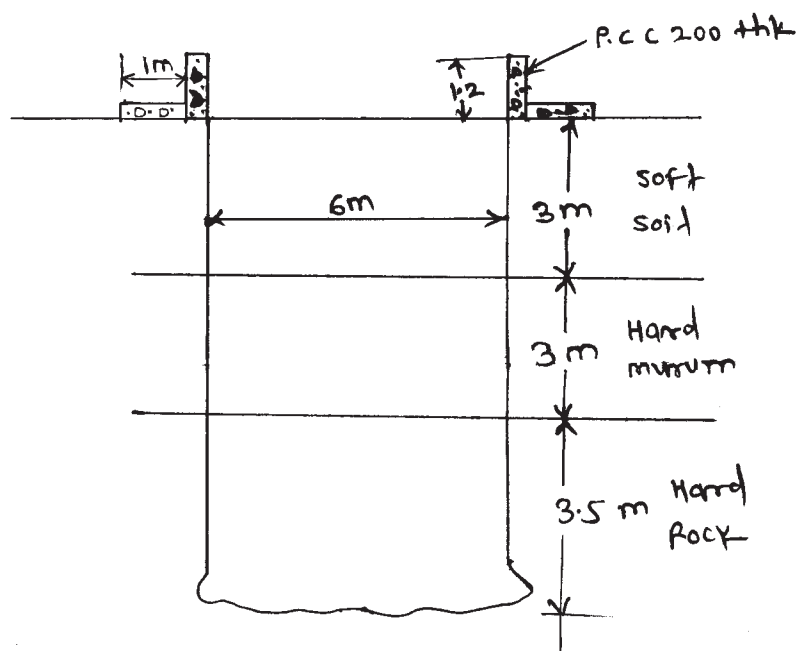

Fig. No. 3
- c) Find quantity of excavation and concrete for community well (Refer Fig. No. 3.)